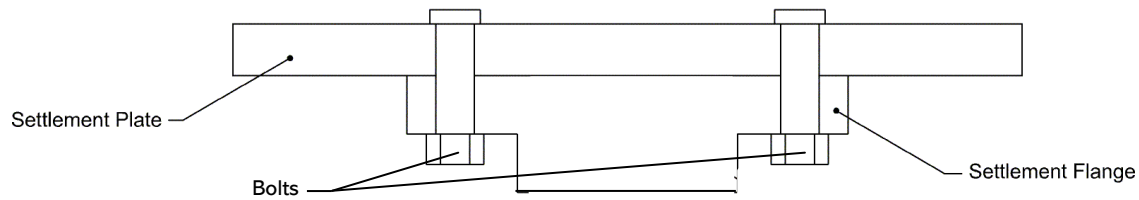

Figure 24 – Flange Attachment
- 8) Attach the settlement flange to the settlement plate using the supplied bolts (Figure 24).